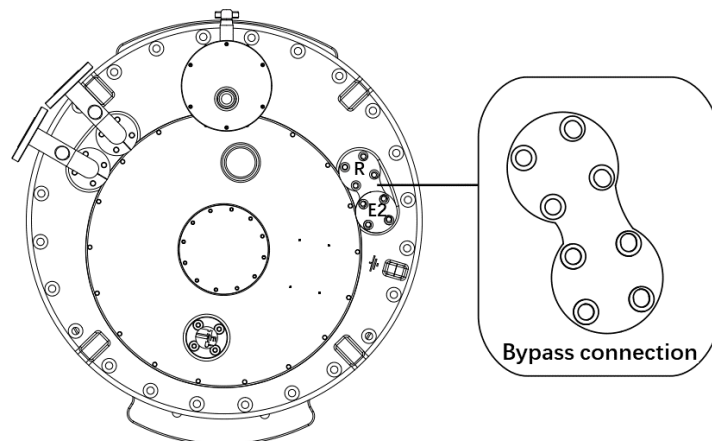

Figure 6.1.2
The connections E2 and R on the on-load tap-changer head (See Figure 6.1.2) are connected by bypass connection, and the inner diameter is at least 50mm , then supply kerosene vapor.
- 2) Screw the oil drain plug clockwise with an extended T-wrench. (See Figure 6.1.2) (Torque 20 N.m.)